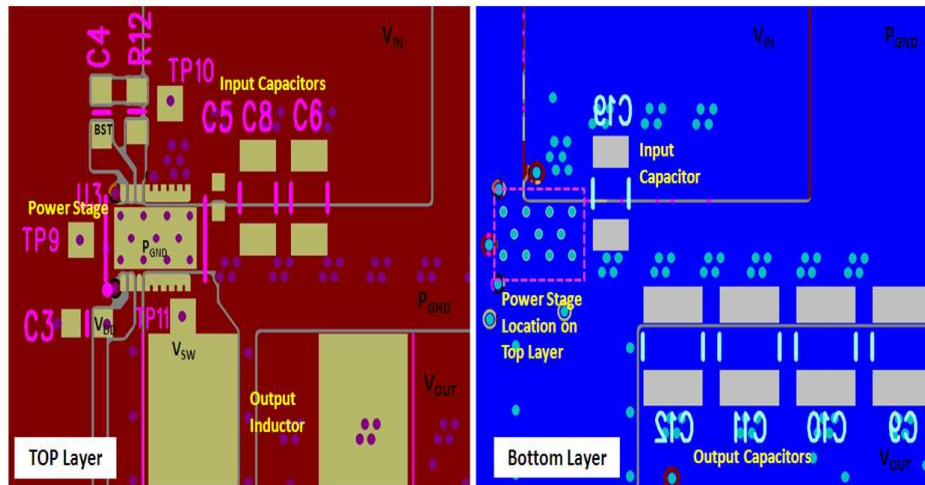

Figure 16. Recommended PCB Layout (Top Down View)
- The placement of the input capacitors relative to  $V_{IN}$  and  $P_{GND}$  pins of CSD95375Q4M device should have the highest priority during the component placement routine. It is critical to minimize these node lengths. As such, ceramic input capacitors need to be placed as close as possible to the  $V_{IN}$  and  $P_{GND}$  pins (see Figure 16). The example in Figure 16 uses 1 × 1 nF 0402 25 V and 3 × 10 μF 1206 25 V ceramic capacitors (TDK Part # C3216X5R1C106KT or equivalent). Notice there are ceramic capacitors on both sides of the board with an appropriate amount of vias interconnecting both layers. In terms of priority of placement next to the Power Stage C5, C8 and C6, C19 should follow in order.
- Use the smallest drill size allowed in your design. The example in Figure 16 uses vias with a 10 mil drill hole and a 16 mil capture pad.